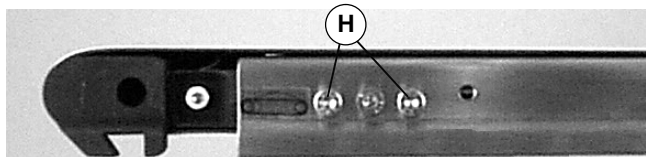

Figure 5
5. Remove head plate screws (H of Figure 5) on both sides of the conveyor.